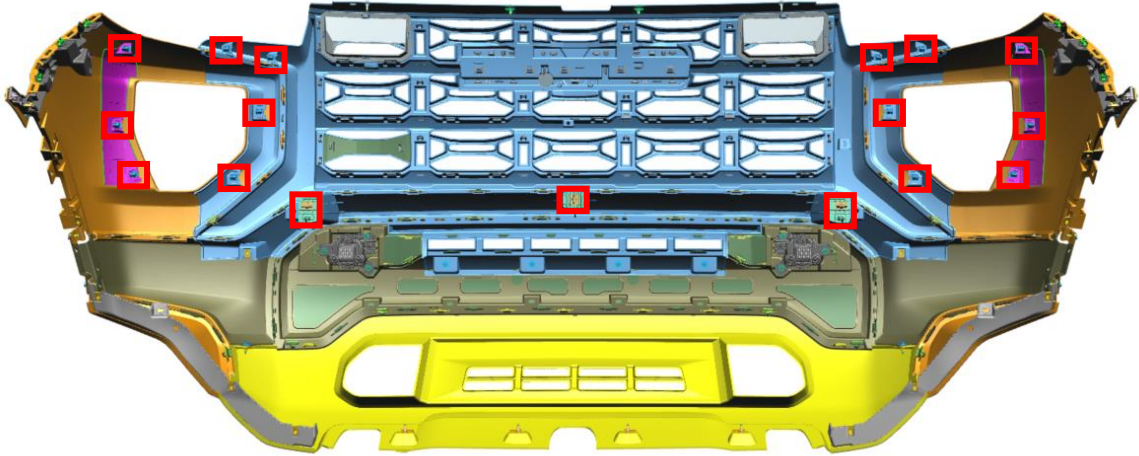

Figure 3 – Backside GMC Front Fascia
- b. Disengage Fascia [17] clips around headlamps (clips remain in fascia) - Fig 3.